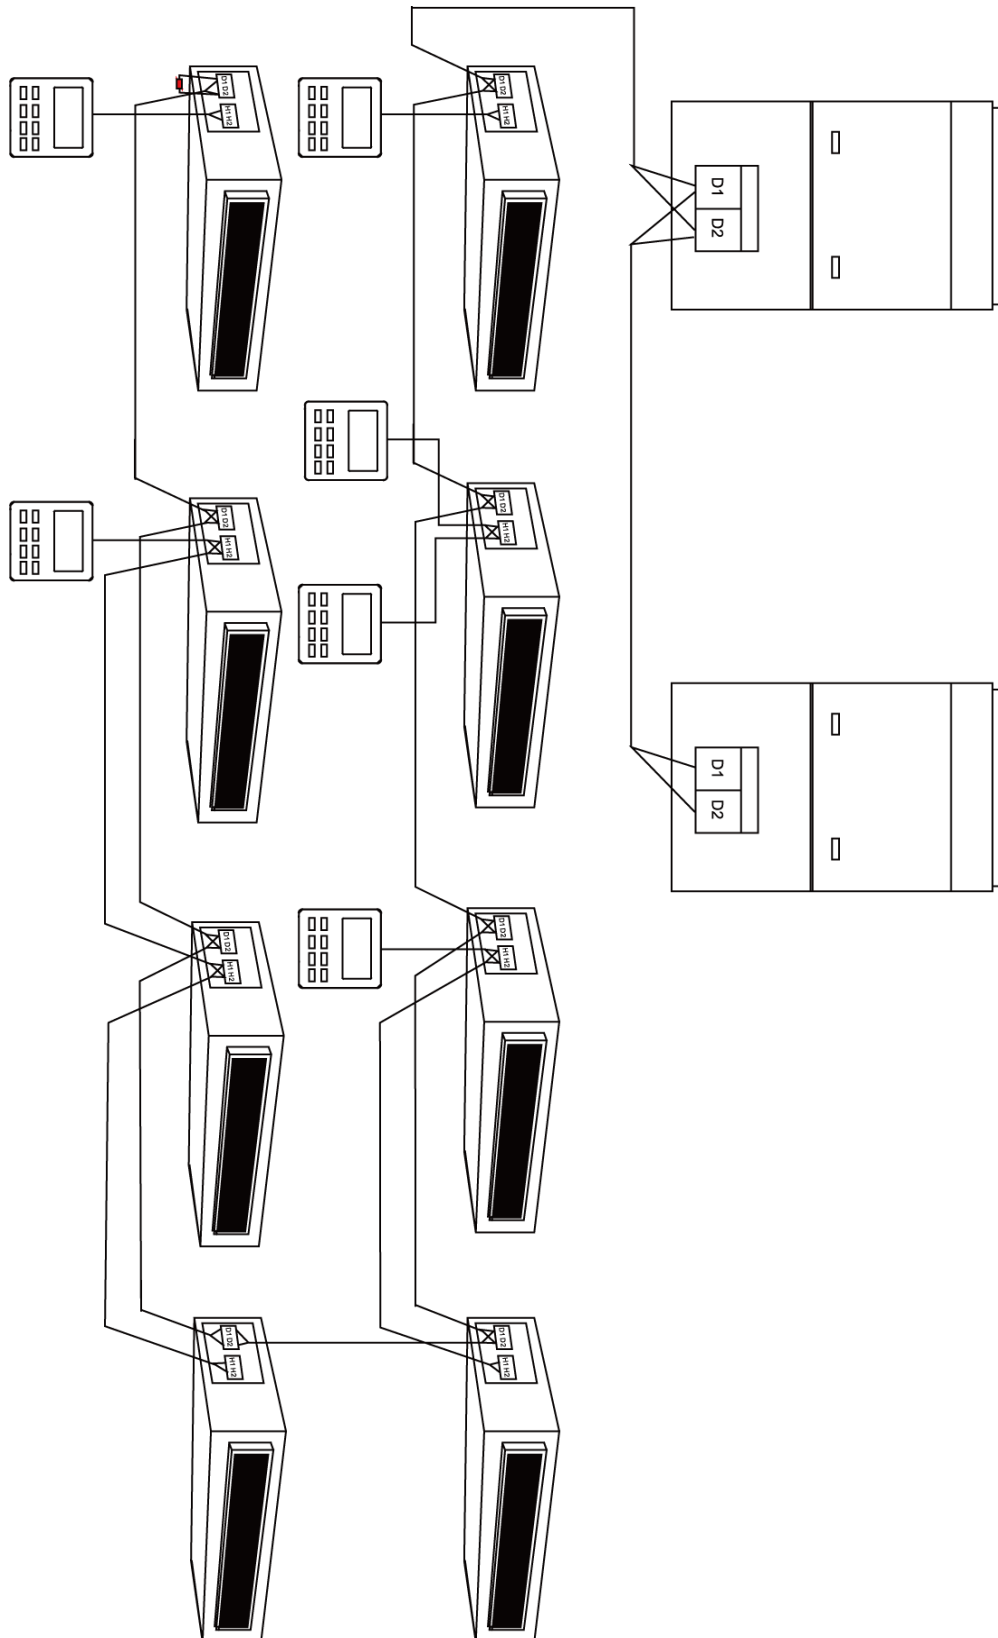

Fig 5.5.1
- (1) Communication wire of indoor unit and outdoor unit (or indoor unit) is connected to D1, D2.
- (2) Wired controller is connected to H1, H2.
- (3) One indoor unit can connect two wired controllers that must be set as master one and slave one.
- (4) One wired controller can control 16 indoor units in maximum at the same time. (as shown in fig 5.5.1)